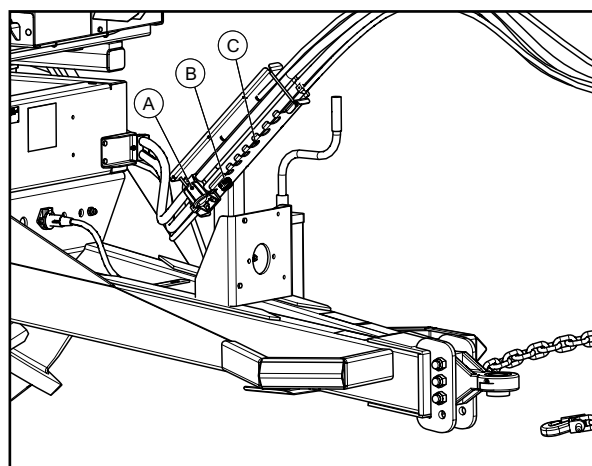

Figure 10
4. Place all power connections in storage positions as shown in Figure 10:
- Store light connector in storage bracket located on hose guide (A).
- Store ISOBUS connector in receptacle (B).
- Store hydraulic hoses in provisions on hose guide (C).